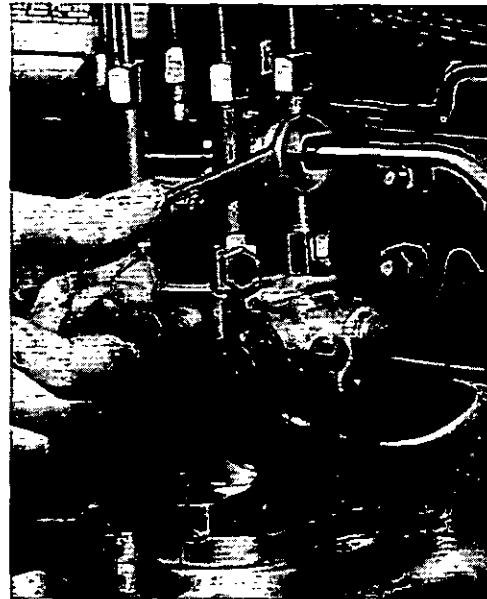

Fig. M.27.
4. Slacken the union nut at the pump inlet Fig. M.27, operate the priming device and retighten when oil, free from air bubbles issues from around the threads.